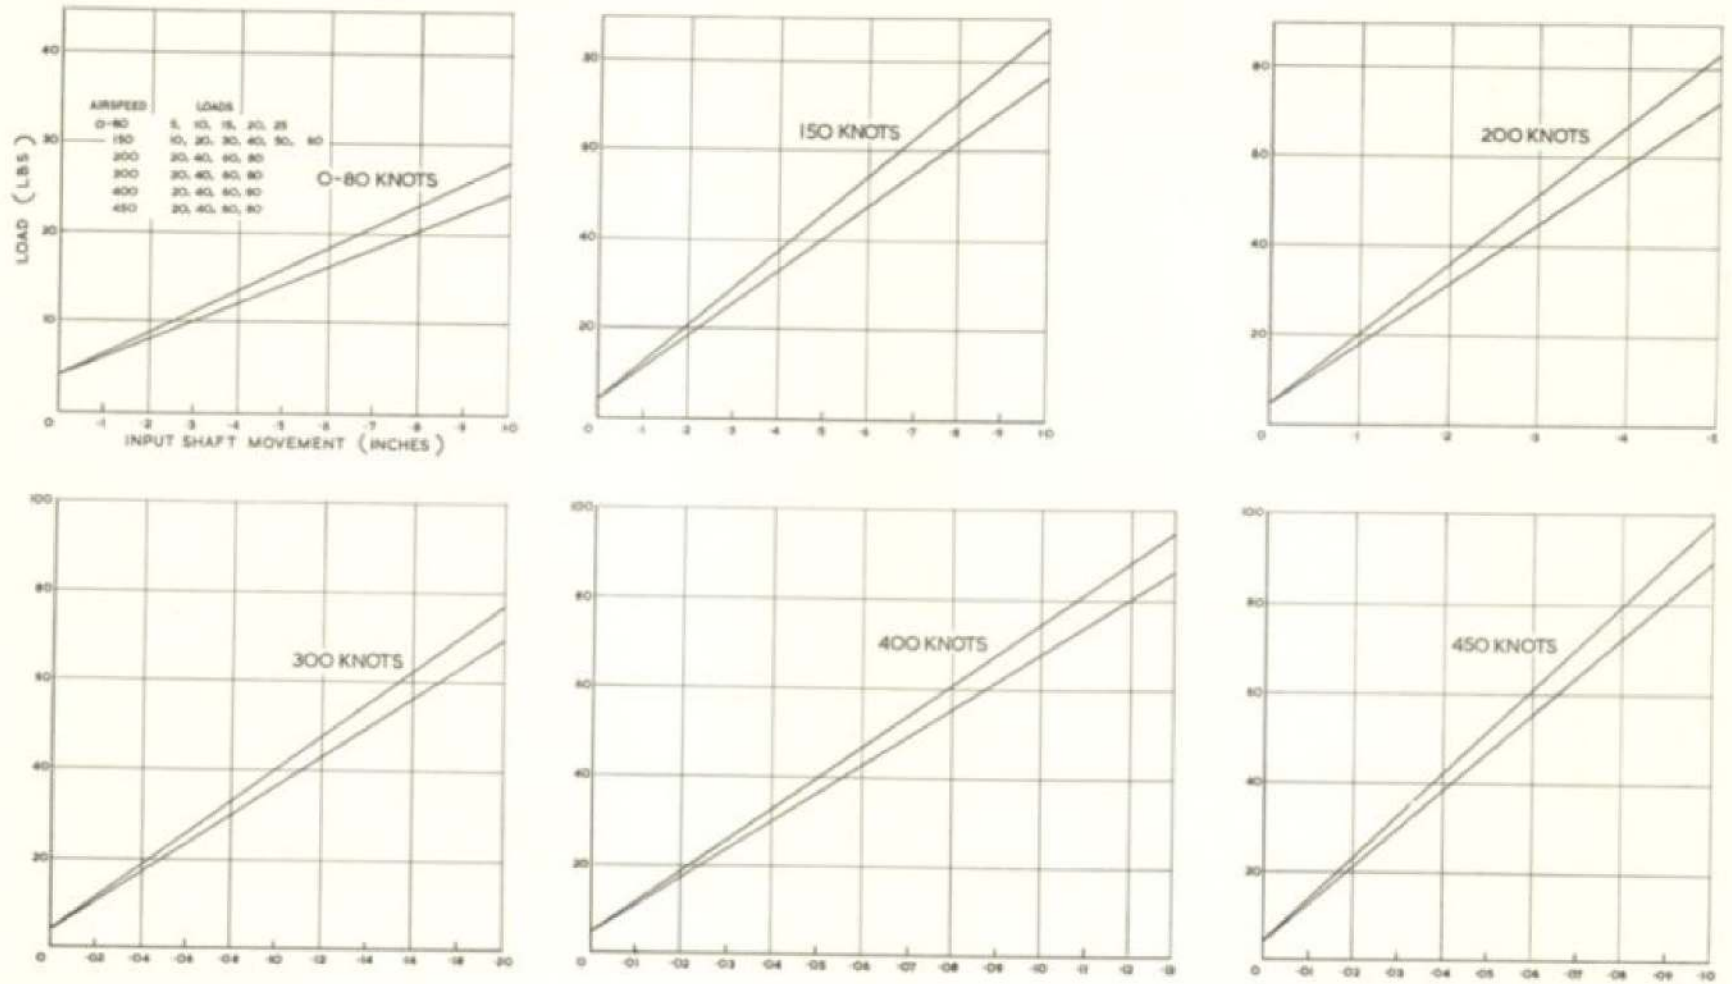

Fig2. Elevator A.F.U.-Load input/shaft movement limits
- (6) The object of the calibration check is to determine the load/input shaft movement characteristics of the feel unit. The calibration sheets fig.2 elevator, and fig.3 rudder, show the upper and lower limits for input shaft movement at the various airspeed settings. To check calibration:-